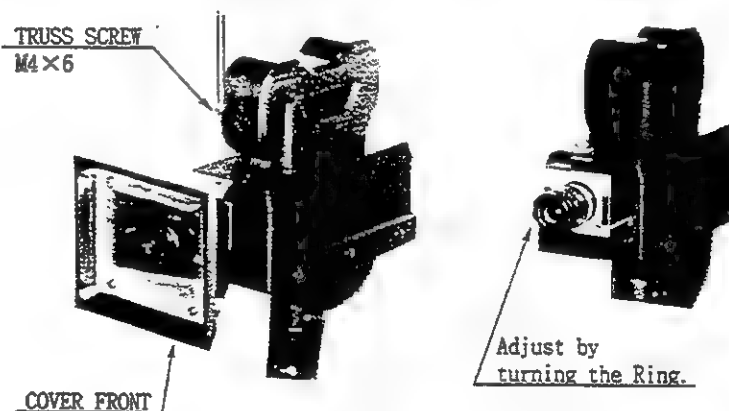

Fig. 16.1
- ② Take off the screw to remove Cover Front.
- ③ Turn the CCD Camera's Lens Ring to allow aperture and focus to be adjusted (Fig. 16.1)